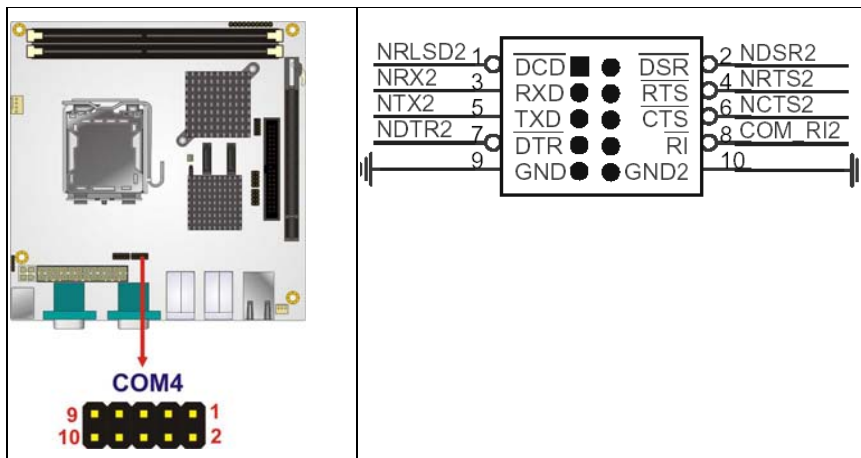

Figure 4-11: Serial Port Connector Location
- CN Location:** See Figure 4-11